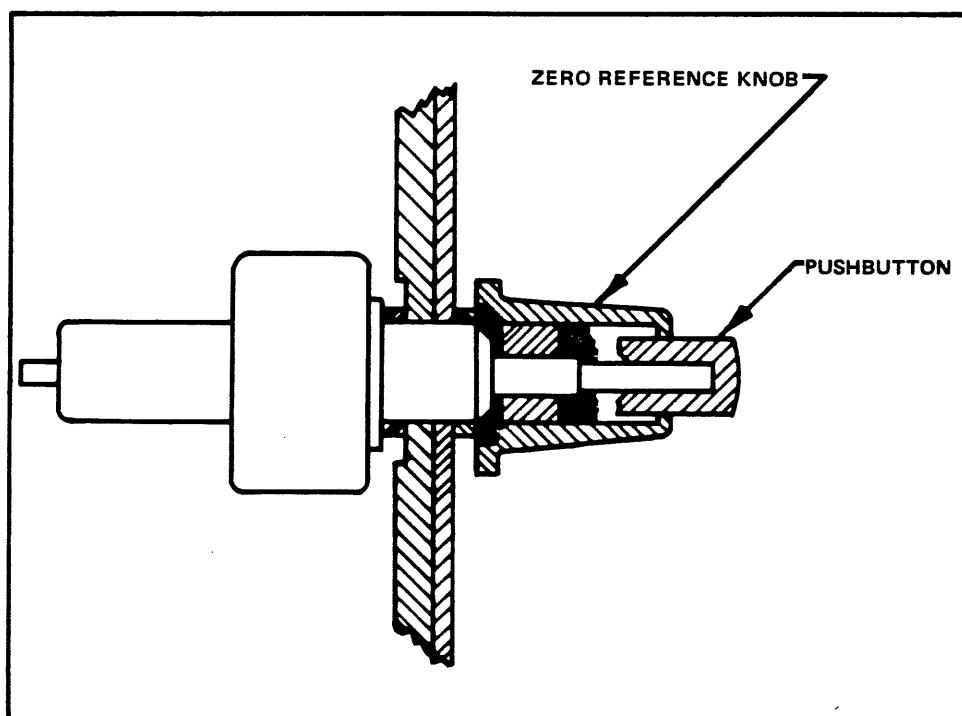

Figure. 29. Installation of knob on ZERO REFERENCE control.
- (2) Assemble the knob and pushbutton on the control shafts as shown in Figure 29.
- (3) Actuate the pushbutton several times. Remove any excess lubricant.